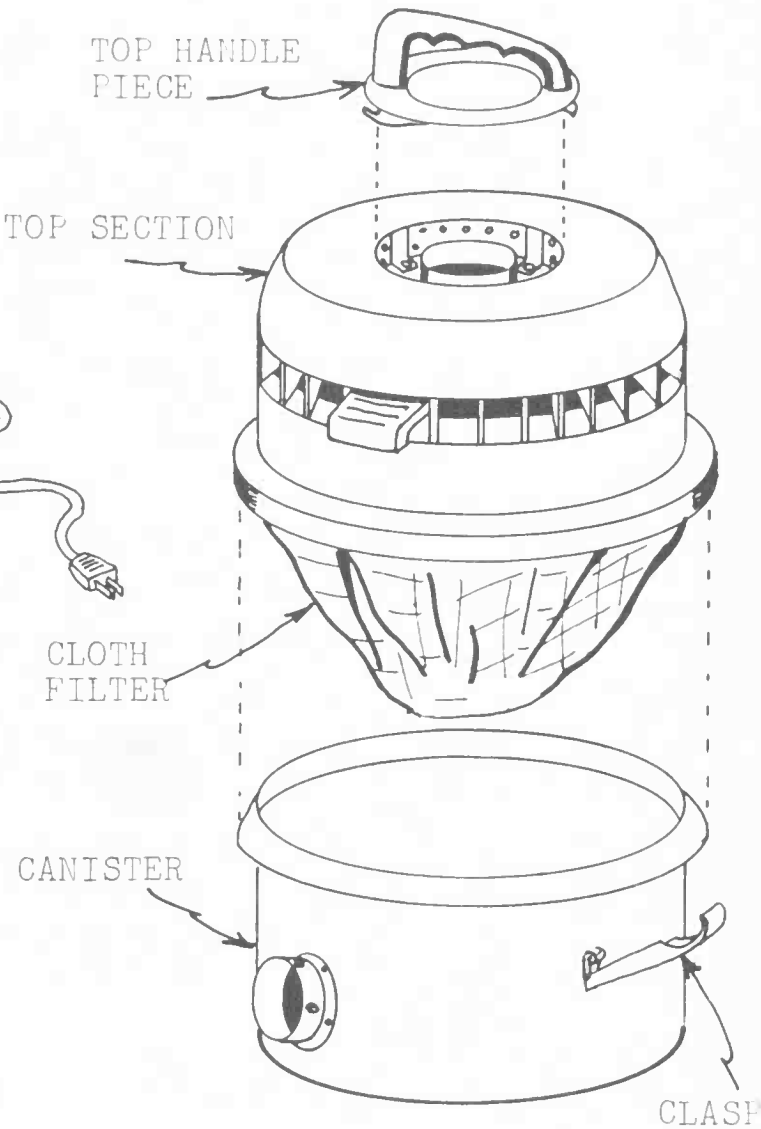

FIG. 6
10. Remove five screws around rim of filter with a flatblade screwdriver. Grasp filter and lift it off. (*Figure 6*) Set screws carefully aside to avoid losing them.